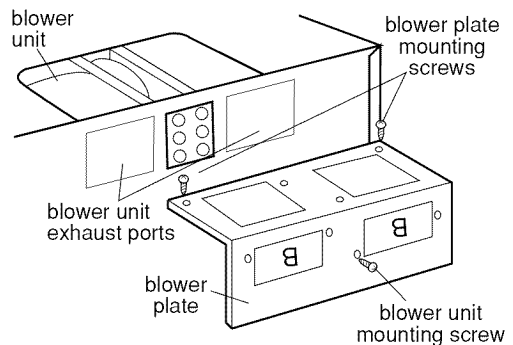

Figure 18
5. Reattach blower plate to microwave oven. Attach with the one blower unit mounting screw and then the two blower plate mounting screws. See Figure 18.